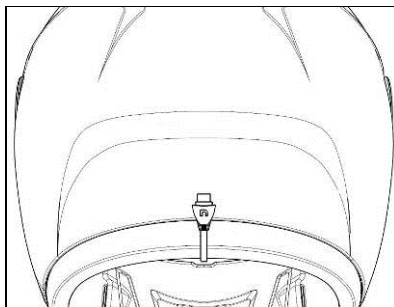

Fig. 5
- Pass the wiring e-box connector through, out of the back of the helmet, so that it can be hooked up to the e-box afterwards (Fig. 5).